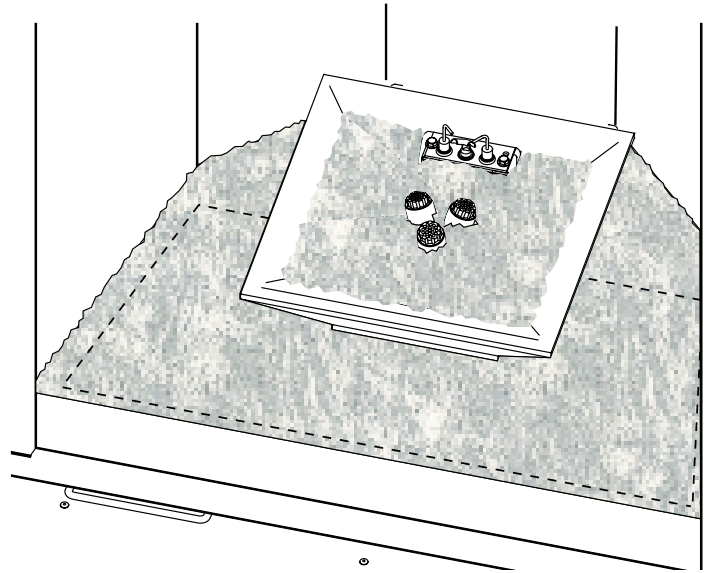

Figure 55
- Using DG1BKP, DG1BUC, or DG1CLF decorative media only, cover the firebox floor surface with a thin, uniform layer. Fill Media Vessel with a thin layer of media. Keep pieces away from the pilot orifice and allow the center burner ports to protrude through. Flame appearance will be affected by the distribution of decorative media. **See Figure 55.**